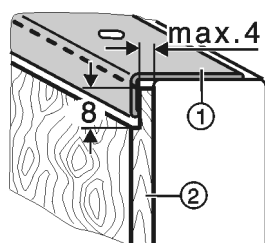

Fig. 40
- Lay thicker décor panels Fig. 40 (2) as shown to a max. thickness of 4 mm.